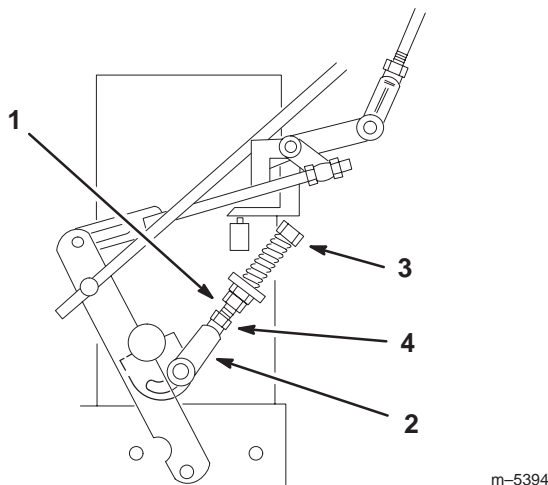

Figure 38
6. If the wheel turns while holding the drive lever in neutral, the neutral control linkages need to be adjusted (Fig. 38). If wheel stops then go to step 12.
7. Loosen the nut against the neutral control linkage yoke (Fig. 38).
8. Adjust the neutral control linkage until the respective drive wheel stops while the drive lever is pulled against the neutral spring (neutral position) (Fig. 38).
9. Turn the adjusting bolt approximately 1/4 turn clockwise if the wheel is turning in reverse or turn the bolt approximately 1/4 turn counter-clockwise if the wheel is turning forward (Fig. 38).